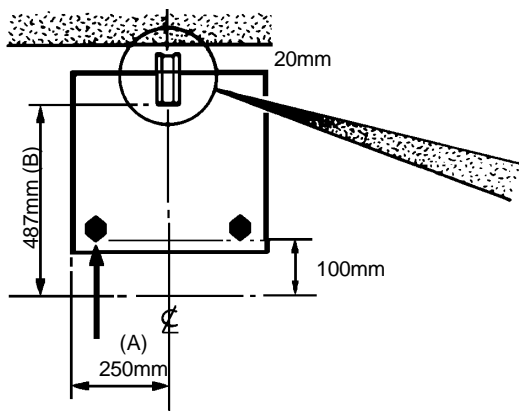
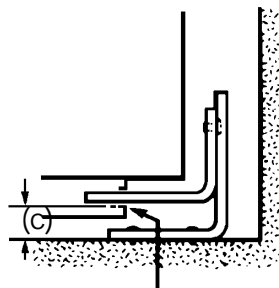

Fig.3a
Fig.3b
2. Mark off 250mm from the left hand side of the appliance as shown in dimension 'A', Fig 3a. This is the centre line of the fixing bracket.
3. Draw a line 100mm from the front edge of the levelling feet (see Fig 3a) and remove appliance from its position. Mark off dimension 'B' (see Fig 3a) back from this line on the centre line of the bracket to locate the front edge of the lower bracket. Fix lower bracket (with two fixing holes) to the floor then measure the height from floor level to engagement edge on back of appliance, dimension 'C' of Fig. 3b.
4. Assemble upper bracket to lower bracket so that underside of bracket is dimension 'C' +3mm above floor level. (see Fig. 3b).
Reposition appliance and check that top bracket engages into appliance back as shown in Fig. 3b.